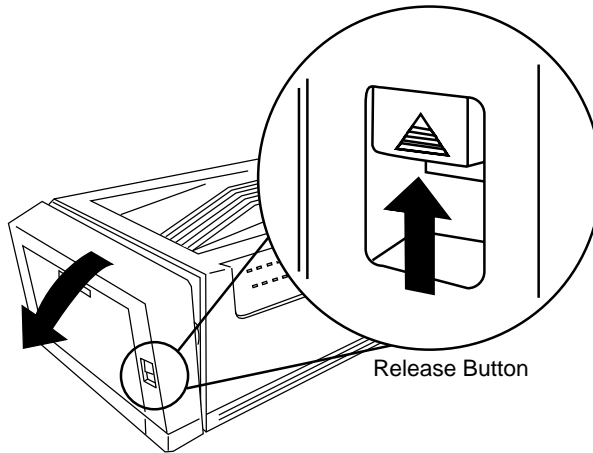

Fig. 6.2 *Open Paper Path Door*
2. Pull up on the release button on the right side to open the paper path door (fig. 6.2).